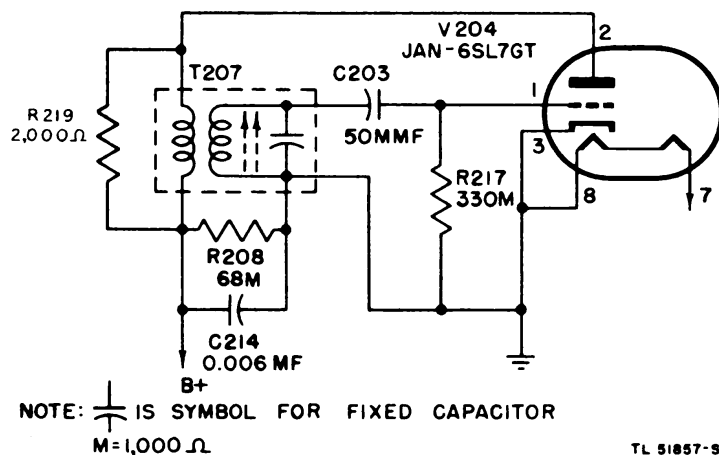

Figure 30. Beat-frequency oscillator V204, simplified diagram.
65. BEAT-FREQUENCY OSCILLATOR (fig. 30).